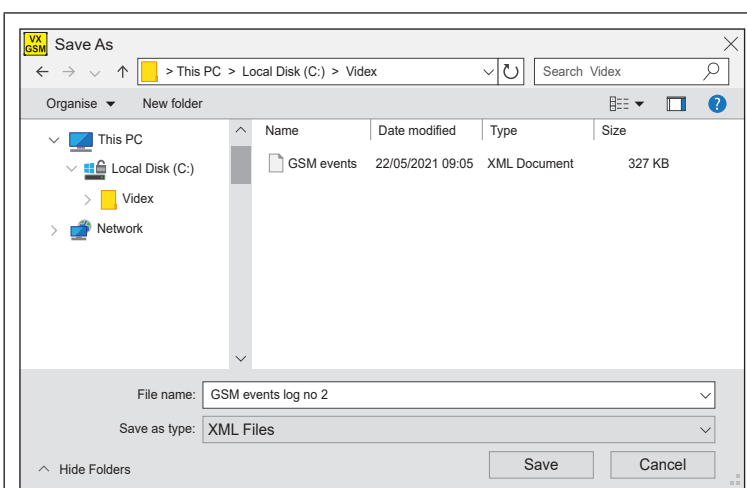

Fig. 71
- The **'Save As'** window will appear, as shown in **Fig.71**, select a location of where to save the event log (the file will be saved as an XML document).